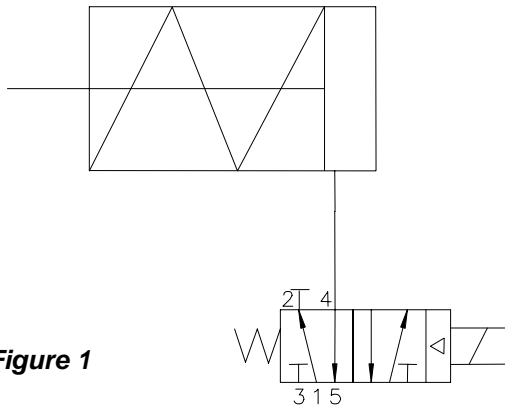

Figure 1
- For external solenoid valves, refer to solenoid valve operating instructions for piping and tubing configuration. For integrated solenoid valve, a four-way spool valve is provided. Plug port #2 for 3-way applications (Figure 1). Make sure the plug is properly configured before installing tubing.
- Attach tubing according to solenoid valve manufacturer's instructions. For integrated solenoid valve configuration, refer to Figure 1 for